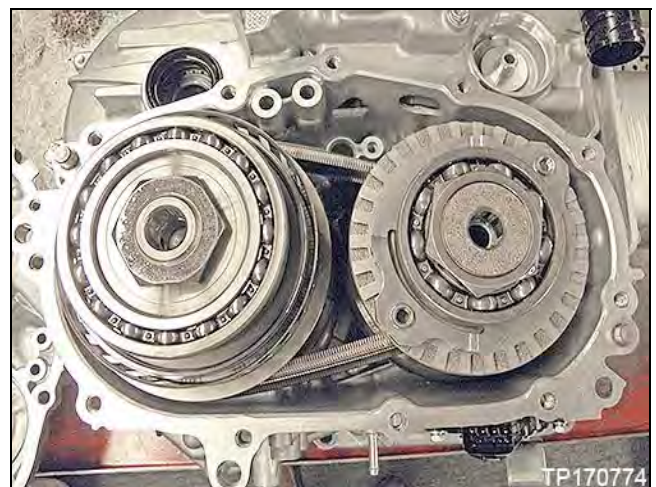

Figure 3U
**NOTE:** Figure 3U shown with side cover removed.